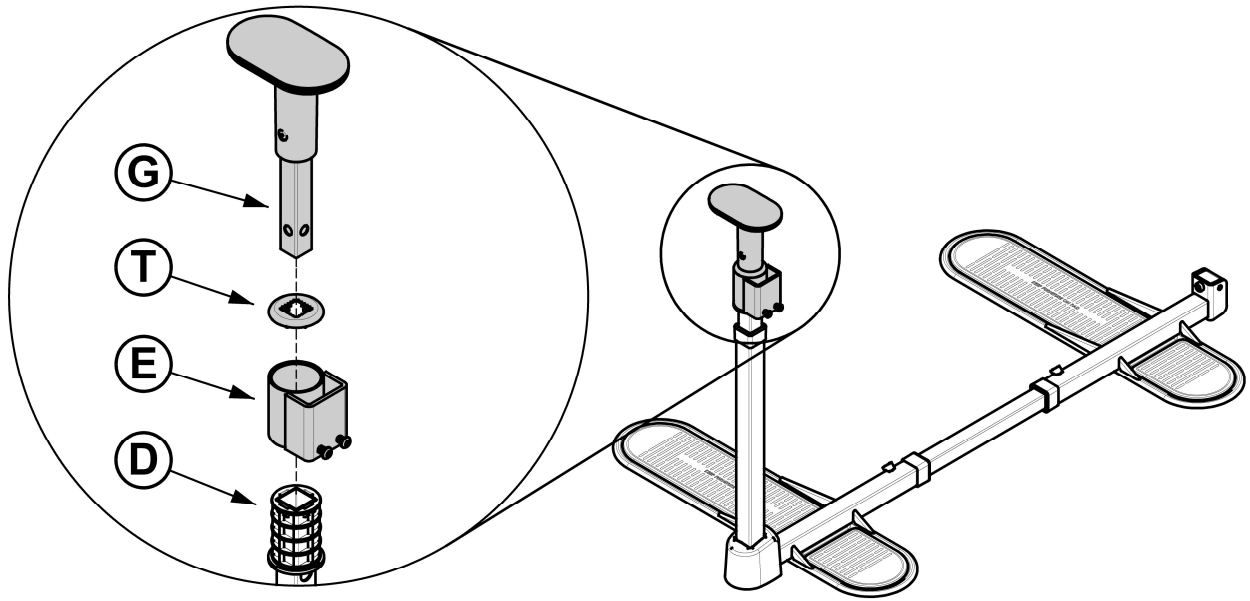

FIGURE 7
7. Install Pivot **E** over Upright **D** oriented with the pre-installed bolts at the bottom as shown in *FIGURE 7*. Place Cap **T** over **E** with the square holes aligned. Then, insert Handle **G** through the square hole in desired orientation.